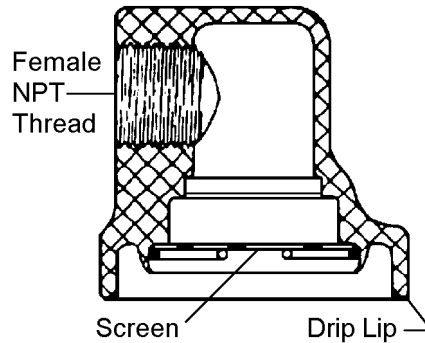

Figure 1. Vent Assembly on a Pressure Regulator
- (1) Checking Installation Practices.** Propane pressure regulators must be covered by a hood, or must be installed so the vent opening terminates downward. Freezing rain could form a coating of ice on the protective screen of a vent opening, blocking airflow.
- (a) **Uncovered Pressure Regulators.** Uncovered pressure regulators should have a vent opening with the proper size drip lip, or a drip lip adaptor of the required size, as illustrated in Figure 1. Also, the vent opening should be covered with a screen to keep insects out of the regulator vent air passage and the vent should be clear of any obstructions.